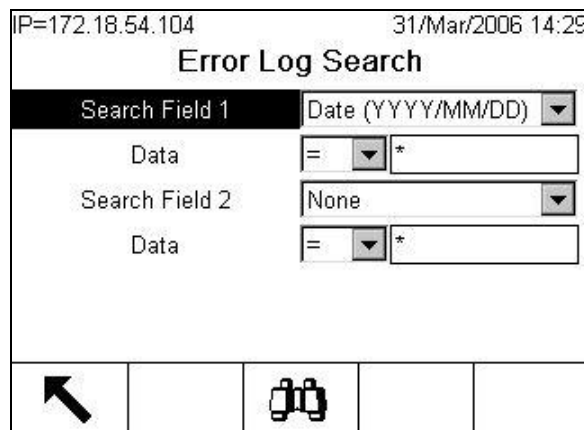

Figure C-40: Error Log Search Screen
2. Press the VIEW TABLE softkey . The Error Log Search screen (Figure C-40) displays.